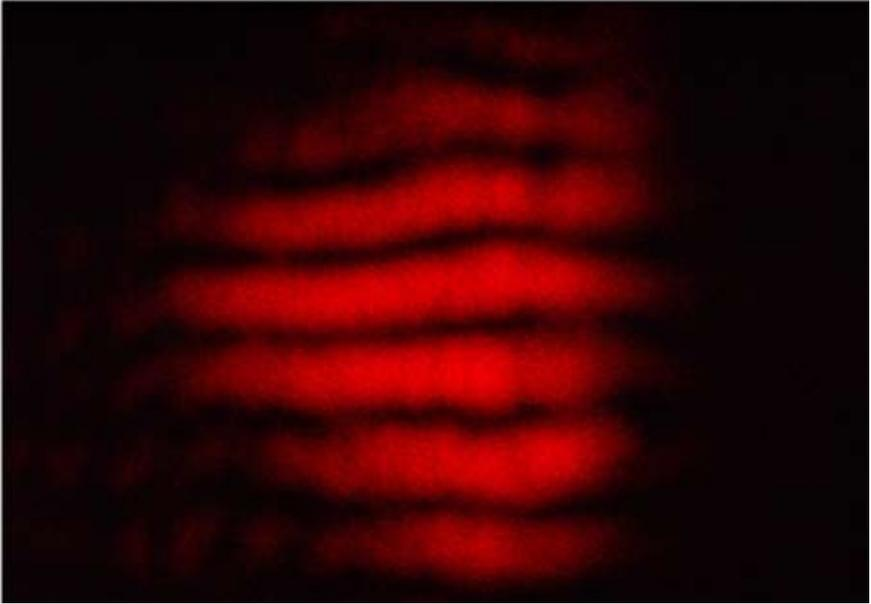

**Fig. 8. Blocking internal reflections inside the beam splitter.**
3. Attach the beam splitter to a U-shaped carrier and mount it to the platform at a 45-degree angle to the laser beam Fig. 6. Adjust its height so part of the beam will be transmitted through the splitter and the rest reflected at an angle of 90 degrees. Adjust its horizontal alignment so that the internal reflection inside the beam splitter is blocked by the black tape Fig. 8.